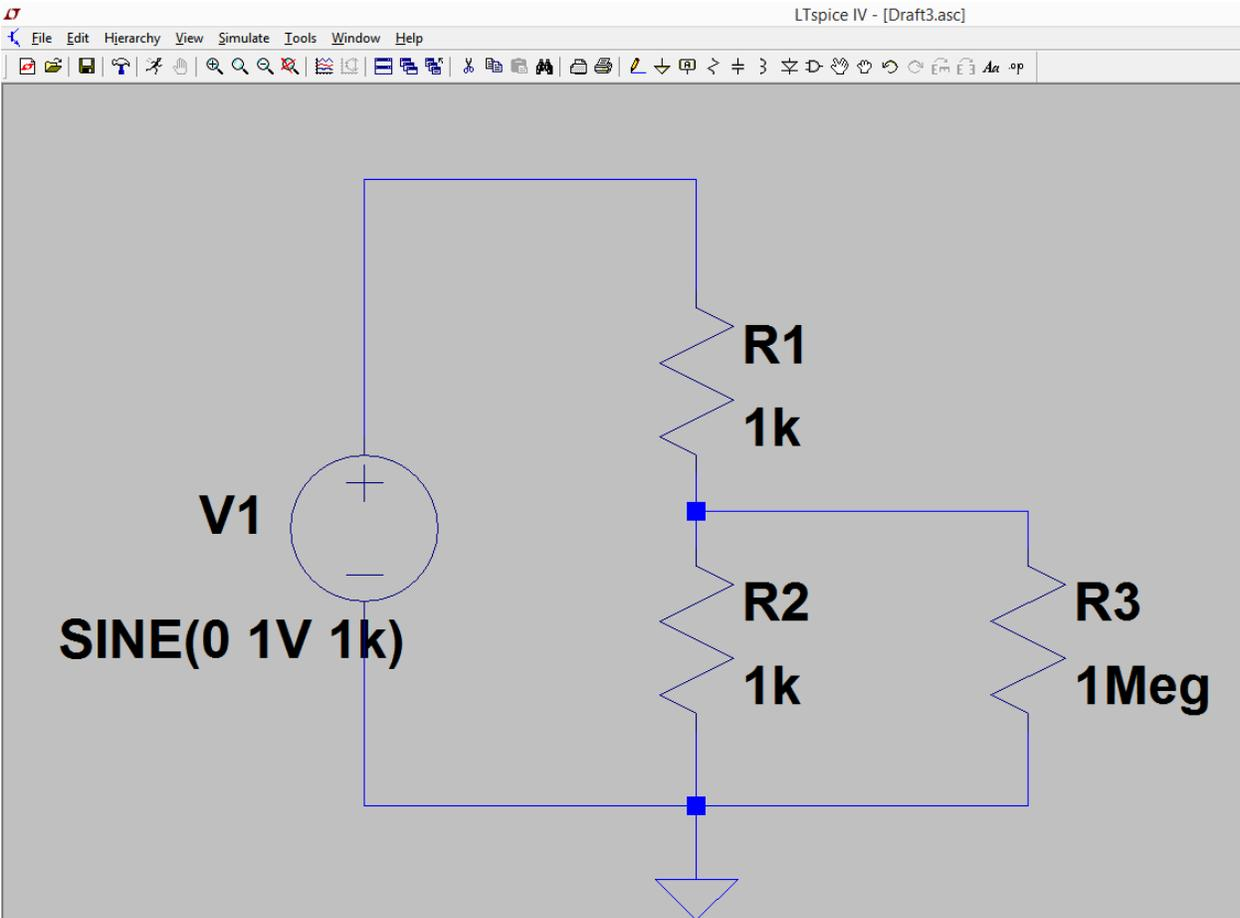
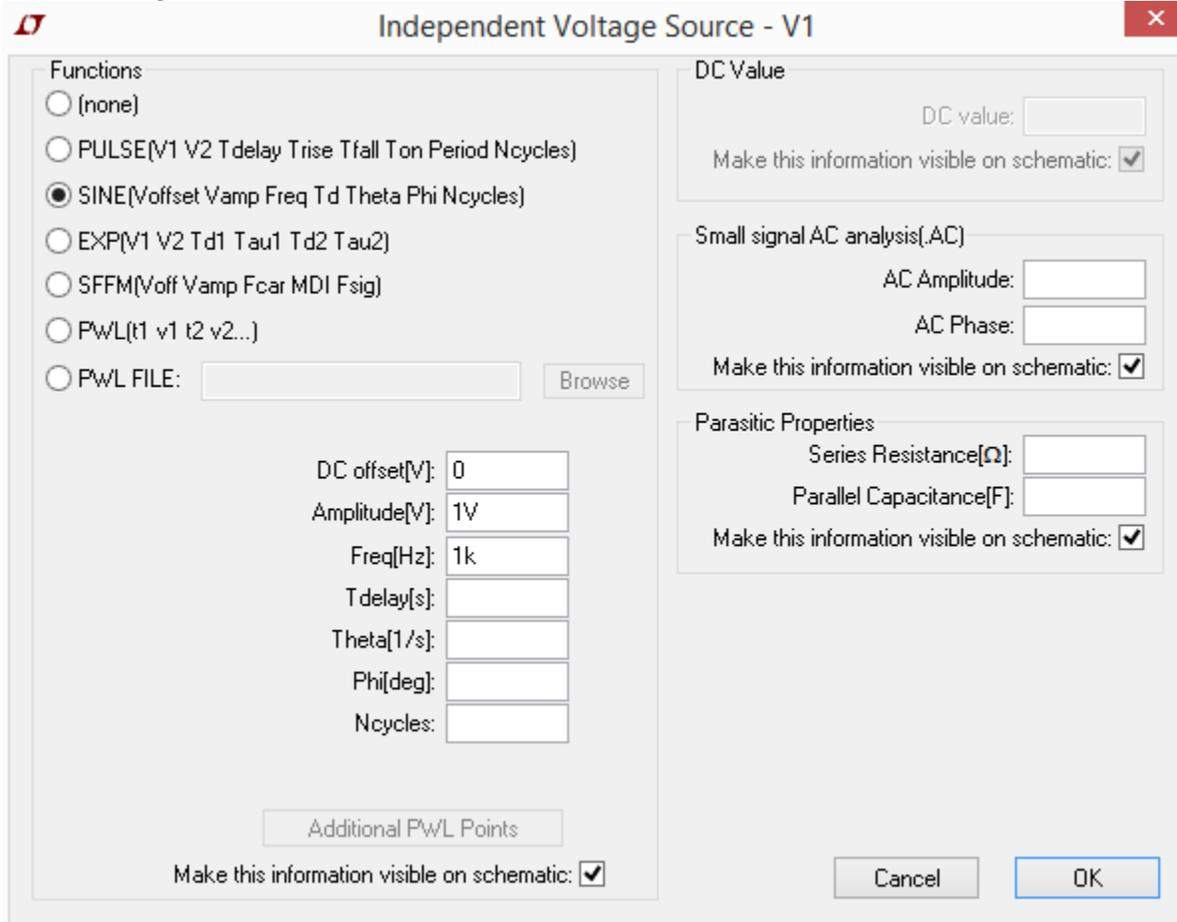

Figure B-3.
Figure B-6.
In the circuit shown in Figure B-3, we have some resistors, a sinusoidal voltage source, a ground and some wires. To create this diagram, we will use the command buttons. For the resistors we will click on the button that looks like a resistor. You can also do this by using the *Edit* menu or by hitting the *R* key. You should see a resistor symbol that you are free to place anywhere in the schematic. The *Edit* menu also shows you what name goes with every symbol. For the ground, select the ground button, use the *Edit* menu or hit the *G* key. For the voltage source and most other
- After you have changed all the resistor values and moved them to readable positions, you must set up the voltage source. In *LTspice IV*, voltage sources are DC by default. To specify the source as sinusoidal, right click on the voltage source symbol and select the *Advanced* button. The window in **Figure B-6** will appear. Select *SINE* and then set the values shown for offset, amplitude and frequency. Once the symbol is labeled as *SINE*, these parameters can be changed by right clicking on the symbol. The values are used to label the voltage source as shown in **Figure B-3**.